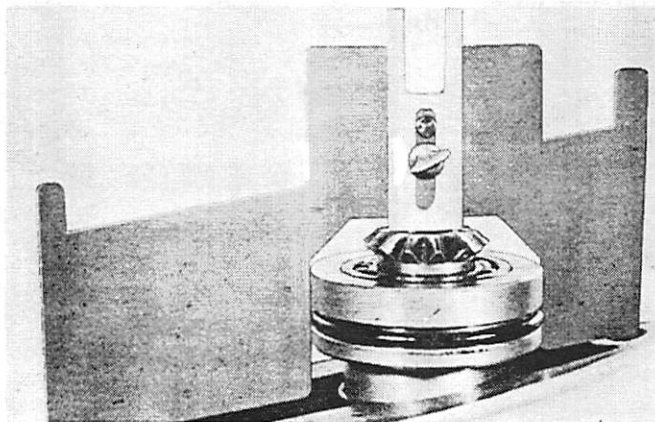

Figure 16. Correct Shimming
2. If gap is measured between lower edge of template and upper face of gear housing, this amount of shims must be subtracted from drive shaft. (Figure 16) Be sure to equalize gap at each end of template.
3. If no gap appears at either point, transmission shimming is correct and should not be altered. (Figure 16)